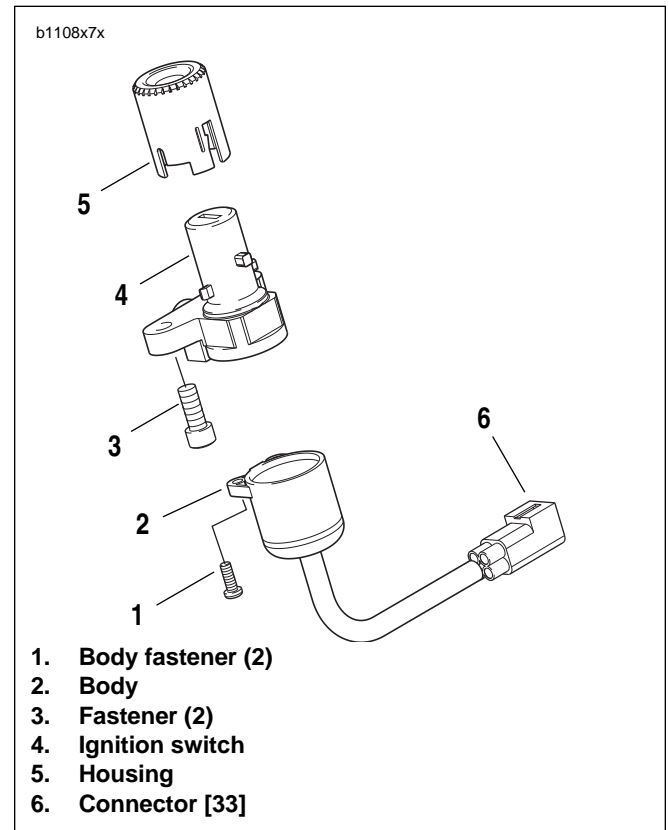

Figure 7-5. Ignition Switch Assembly
10. Remove the upper fork clamp (4) from forks.
11. See Figure 7-5. Use Snap-on Tamper-Resistant T45 Torx driver, Part No FTXR45E to remove ignition switch fasteners (3) securing ignition switch (4) to upper fork clamp. Slide ignition switch out of upper fork clamp.
1. See Figure 7-5. Remove ignition switch housing (5) from ignition switch (4) by prying tabs on side of housing
2. Remove ignition switch body fasteners (1). Separate ignition switch body (2) from ignition switch (4).
See Figure 7-5. In next step, be sure wide slot in ignition switch housing (5) is installed over wide boss on ignition switch (4).
1. Push ignition switch housing (5) on to ignition switch (4).
2. See Figure 7-5. Attach ignition switch assembly to upper triple clamp using ignition switch fasteners (3). USE LOCTITE 272 (red) on fasteners. Tighten to 18-20 ft-lbs (24.4-27.1 Nm).